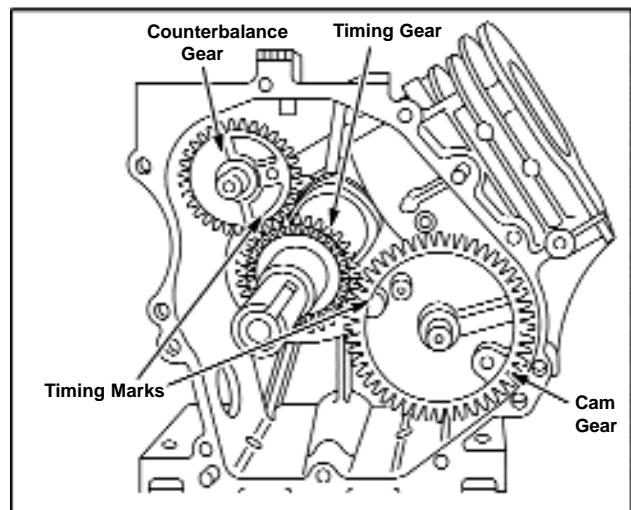

Figure 122 - Removing Cam Gear
8. With cam gear in this position, the valve tappets will remain clear of cam lobes. Lift out cam gear. See Figure 122.